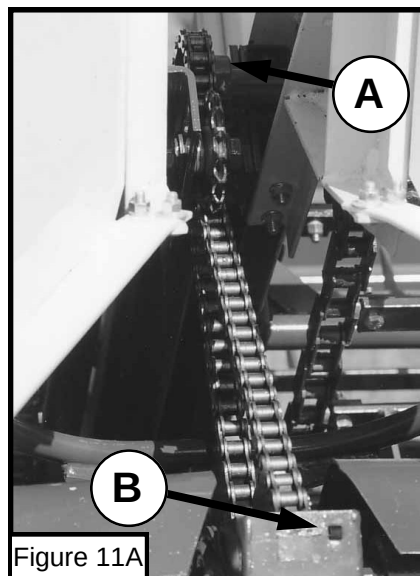

Figure 11A
Use 5/16 x 3/4 carriage bolt and flange hex nut, to mount the support to the shield. The top shield bolts to a bracket which is located behind the drive sprocket (A) and the rear support bolts to the inverter support (B). (Refer to Figure 11A)